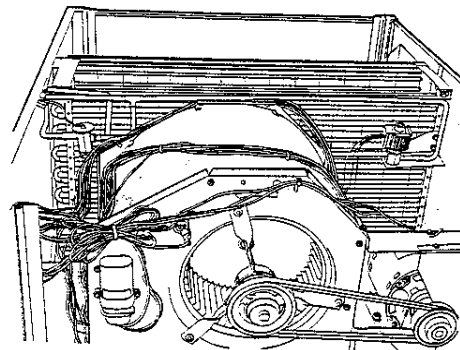

FIGURE 2 – Fan & Motor Assembly
2. Remove evaporator fan access panel. See Figure 1. Check fan and belt rotation by turning on disconnect for one to two seconds. See Figure 2.
4. Replace evaporator fan access panel. See Figure 2.